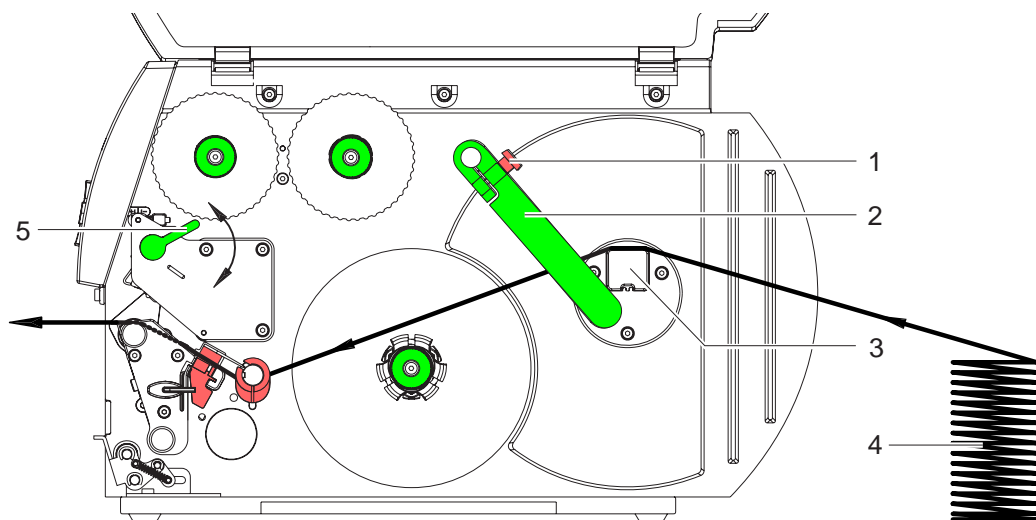

Fig. 11: Feed path of paper with fanfold labels
4. Guide label strip to print unit via the roll retainer (3). See Fig. 11.
5. Push guide (2) against the label strip, swivel it upward against the roll retainer and tighten knurled screw (1).
9. Turn lever (5) clockwise to lock the printhead.